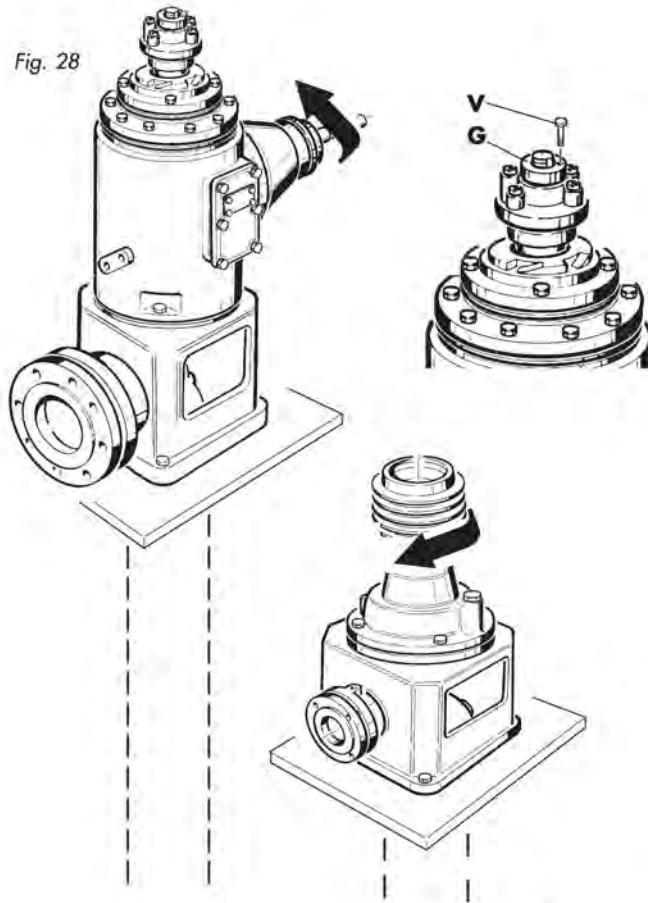

Fig. 28
- Fix the base on the support surface with the appropriate screws, tightening them (Fig.28)